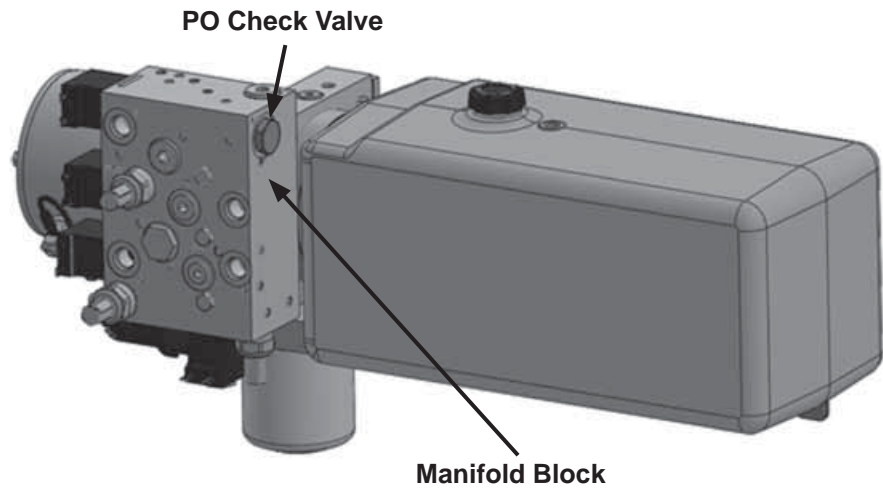

Fig. 2-1
4. Locate **pilot operated (PO) check valve** on power unit manifold block (**Fig. 2-1**).